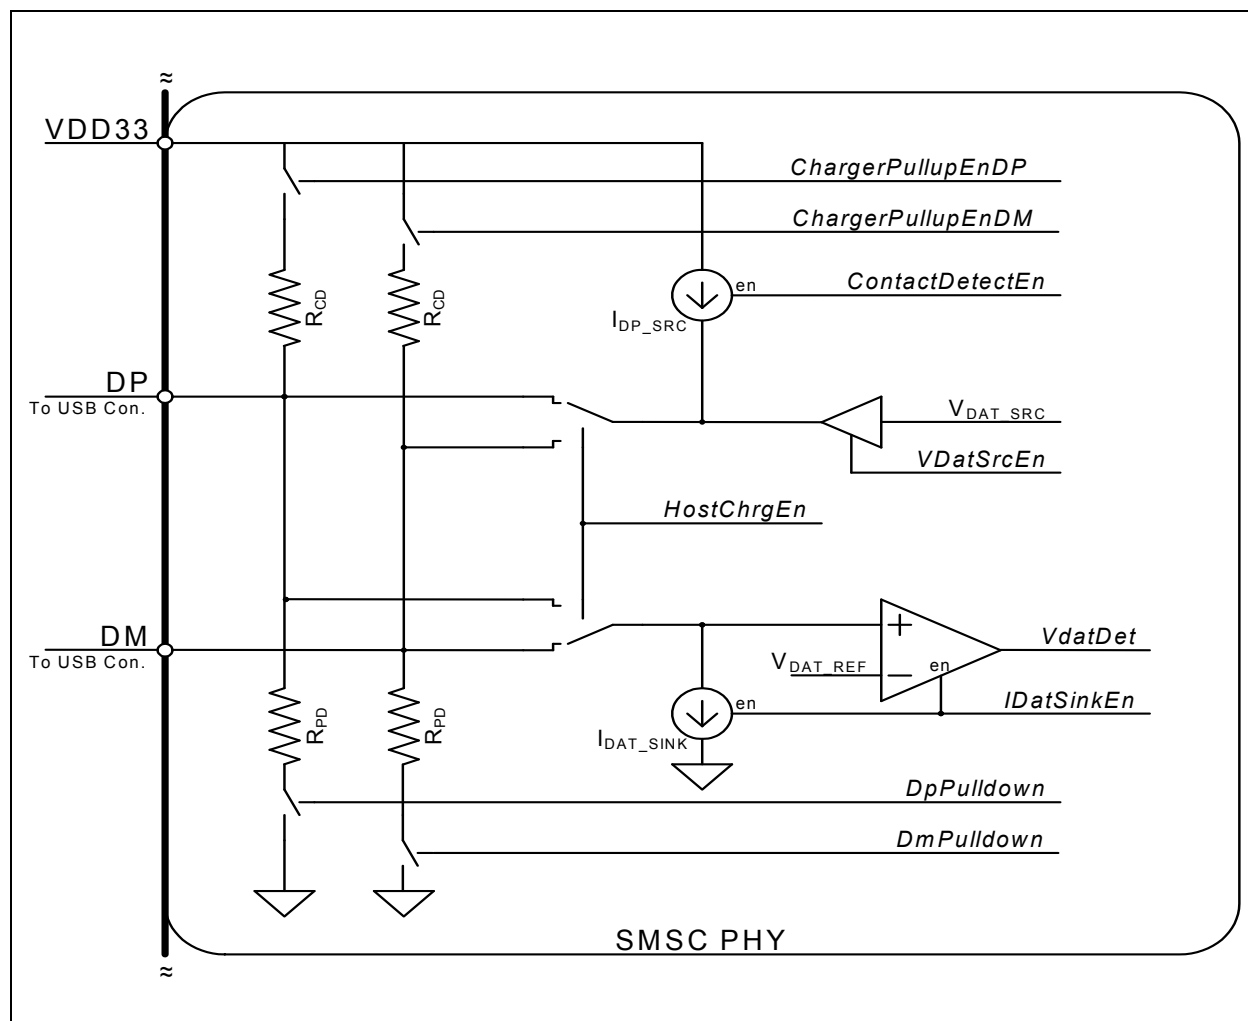

Figure 5.15 USB Charger Detection Block Diagram
**Note:** The *italic names* in the Figure 5.15 correspond to bits in the ULPI register set.
The charger detection circuitry is shown in Figure 5.15.